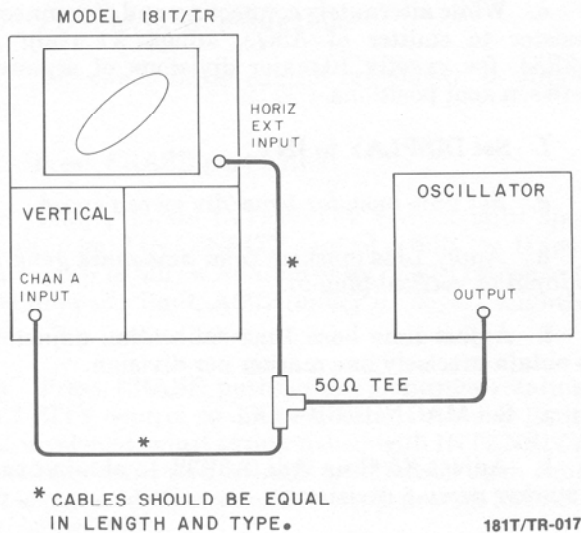

Figure 5-2. Phase Adj. Test Setup
- b. Connect 10-kHz sine-wave output of test oscillator to HORIZONTAL EXT INPUT and to vertical plug-in channel A input (figure 5-2).